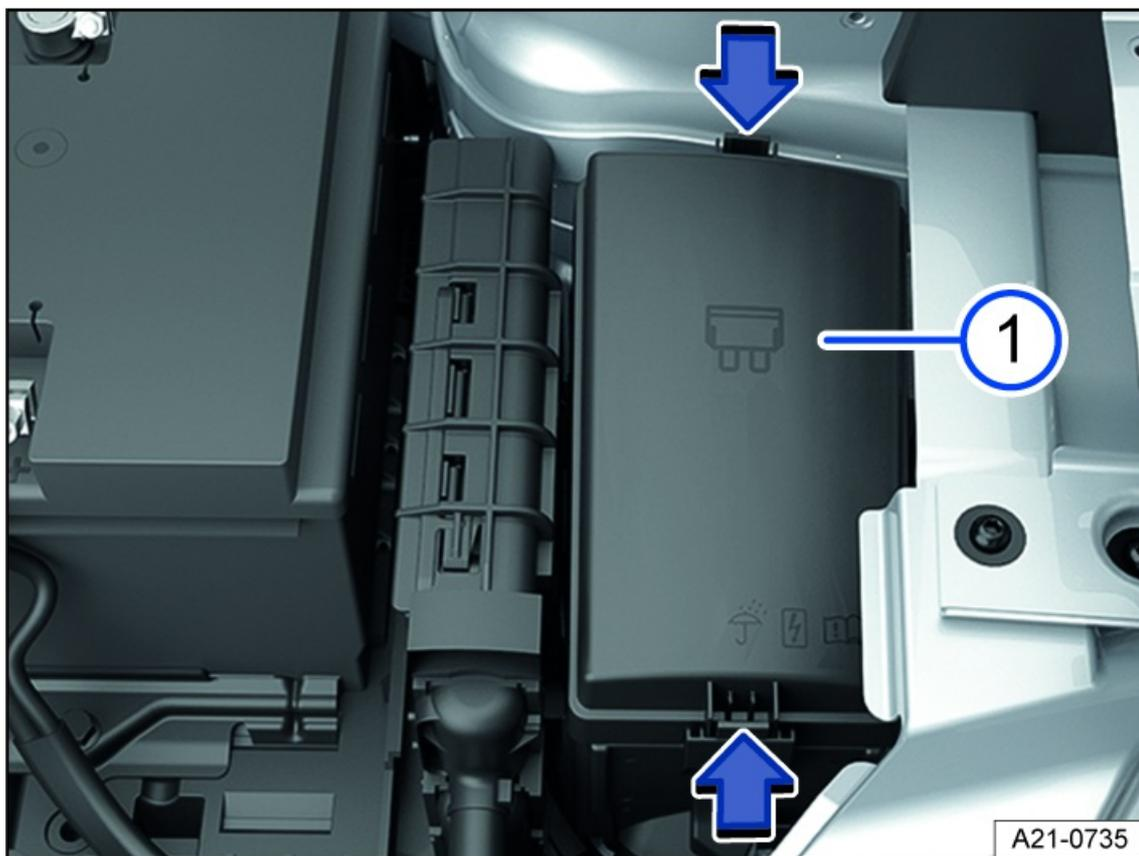

Fig. 150 In the engine compartment: Fuse box.
2. Press the catches in the direction of the arrow to unlock the fuse box cover *fig. 150* ①.